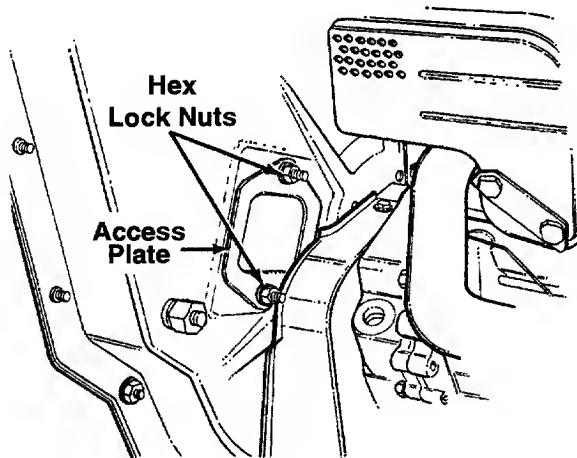

Figure 17
4. Remove the access plate by removing two hex lock nuts. See Figure 17.